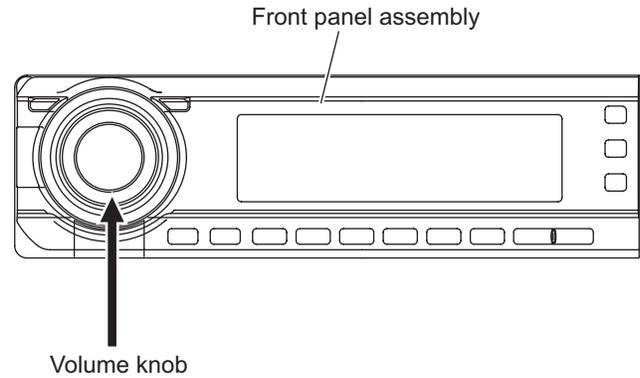

Fig.10
3.1.9 Removing the switch board (See Figs.10 to 13)
- Release the main volume knob from the front panel assembly. (See Fig.10)